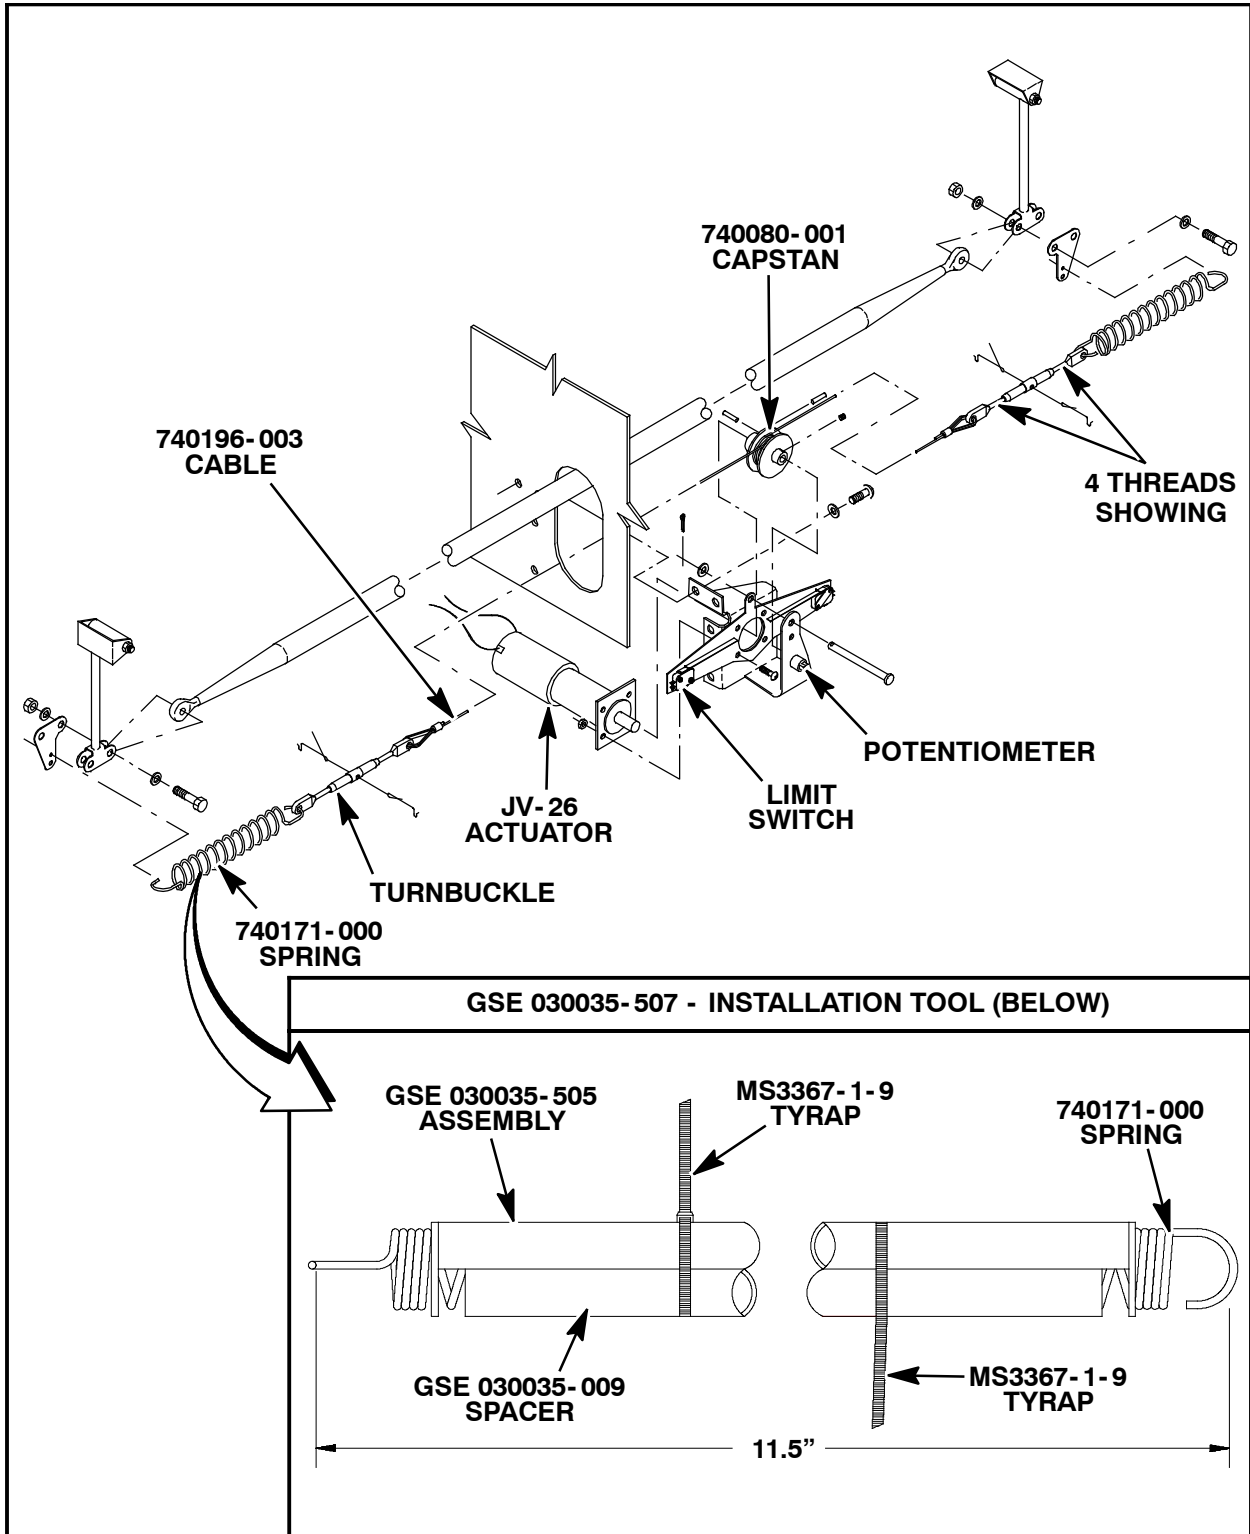

Figure SIM20-124-1 - RUDDER TRIM RIGGING AND INSTALL TOOL
- 1.5. Wrap 740196-003 cable around 740080-001 capstan so that the forward eye of the 740196-003 cable is 10.75 inches from the forward surface of the 740080-001 capstan. Temporarily secure the cable using several wraps of a suitable tape around the cable and capstan. Install actuator assembly into the aircraft. Refer to Figure SIM20-124-1.
- 1.6. Extend 740191 springs and secure with GSE 030035-507 tool. Attach one end of the springs to 740198-001 brackets. Attach one eye of the turnbuckle to the spring and start two (2) to five (5) turns of turnbuckle's barrel to the eye. Use spacer GSE 030035-507 over spring coils, refer to Figure SIM20-124-1. Perform step according to the applicable Mooney International Service and Maintenance Manual.